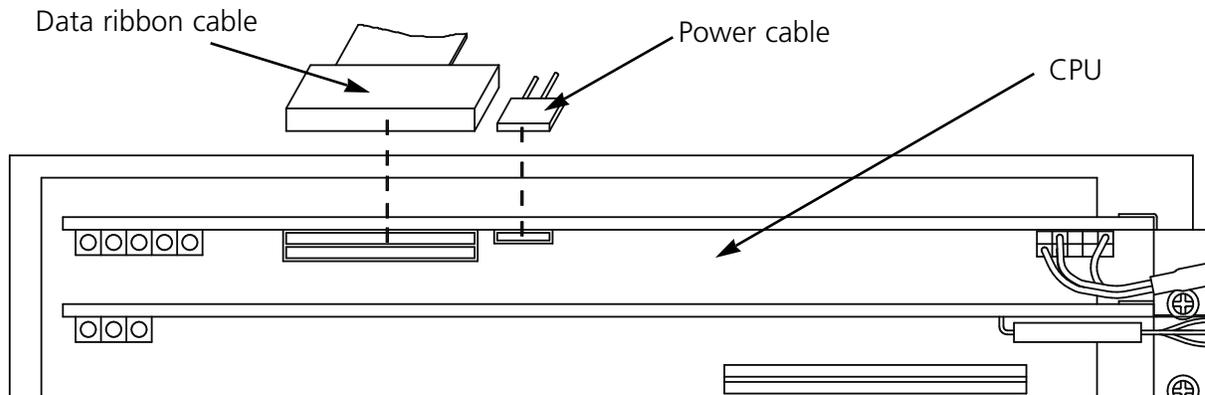

Figure 3-7
4. Plug the data ribbon cable into its connector on the CPU PCB (see Figure 3-7). Plug the power cable into its connector next to the data cable.